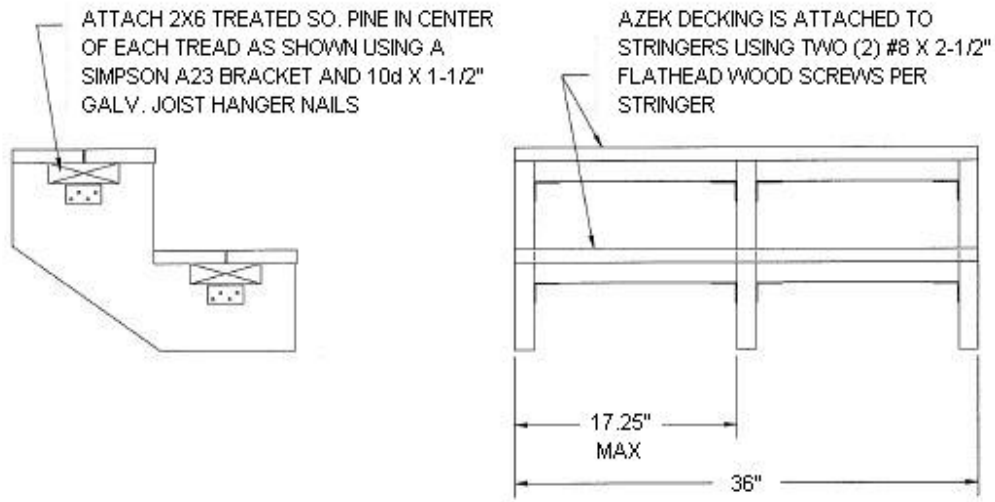

Figure 6 – Alternate 1 X 5-½ Stair Tread Installation for 17.25" Span (2X6 additional support)
17.25"	2X6 additional supports. See Figure 6 for installation details.